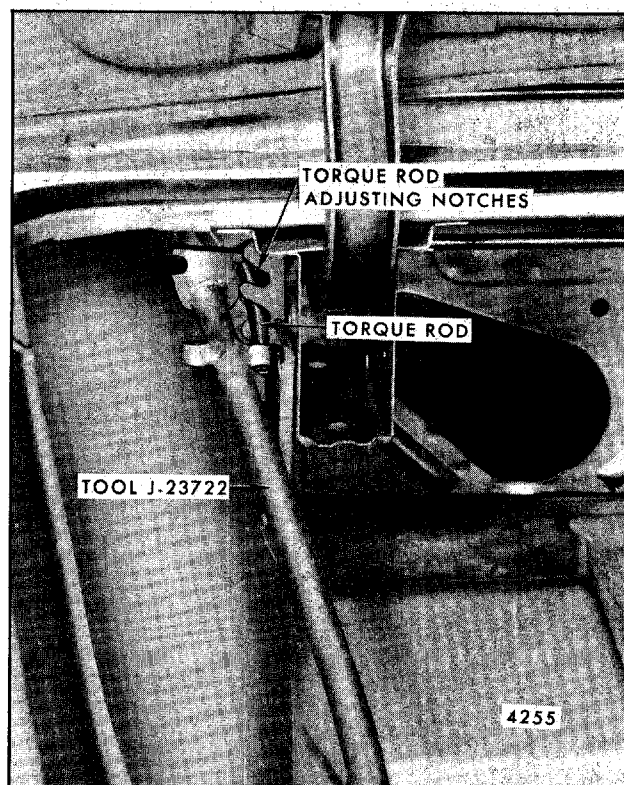

Fig. 7-48-Rear Compartment Torque Rod Adjustment - Cadillac "E"
- c. On Cadillac "E" styles, use tool J-23722 or equivalent (Fig. 7-48).